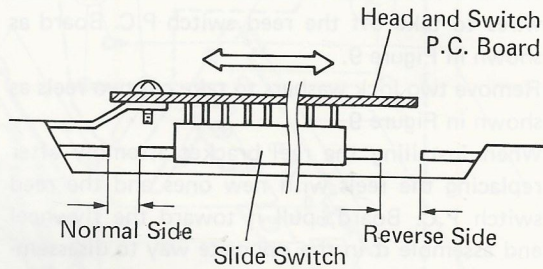
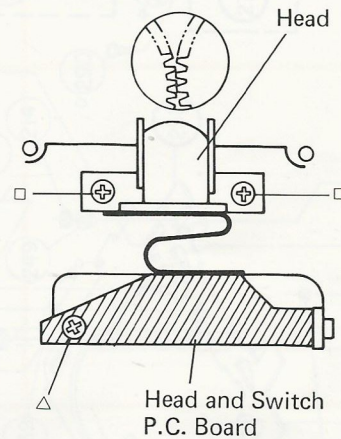

Figure 5
Figure 6
- (1) Remove the eject lever assembly.
- (2) Unsolder one screw marked "△" and then remove it and two screws marked "□" as shown in Figure 6.
- (3) Remove the head from the P.C. Board.
- (4) After replacing the head with a new one, hold the head and switch P.C. Board with three screws temporarily and assemble them in the opposite way to disassembly.
- (5) After assembly, adjust the position of the head and switch P.C. Board so that the clearances on the both ends of the slide switch become equal on the side or normal and reverse as shown in Figure 5.
- (6) After adjusting, solder one screw marked "△" as shown in Figure 6.
- (7) Finally, adjust the head azimuth according to "Head Azimuth Adjustment", and apply the screw-lock paint on the adjusting screw.